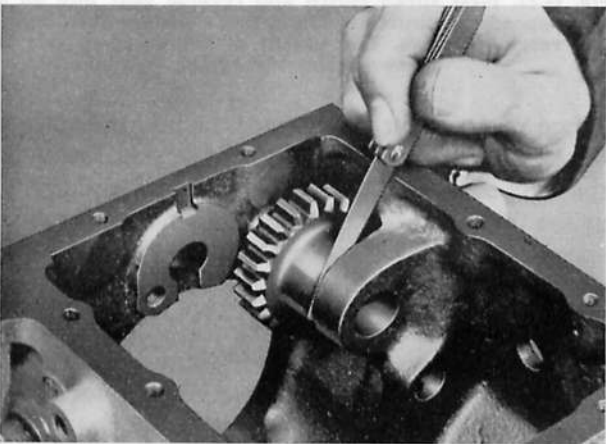

Fig. G.25. Checking the end float of the reverse pinion (three-speed)
2. On three-speed transmissions, check the end float of the pinion in the transmission casing (Fig. G.25).